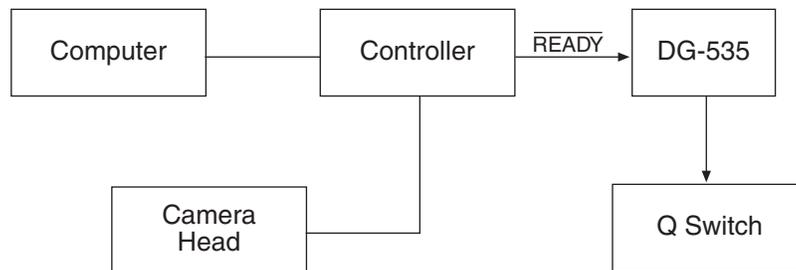
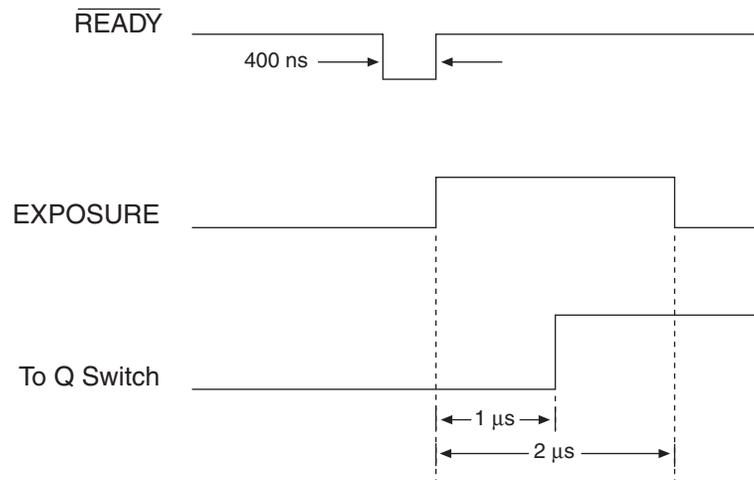

Figure 37. Setup using  $\overline{\text{READY}}$  to Trigger an Event
Figure 38. Timing for Experiment Setup shown in Figure 37
**Example:** Figure 37 shows an experiment where the rising edge of the  $\overline{\text{READY}}$  signal is used to trigger a DG-535 Delay Generator, which provides the required delay and triggers a laser source, Q switch, or other device.
Figure 38 illustrates the timing for a typical experiment like that shown in Figure 37.